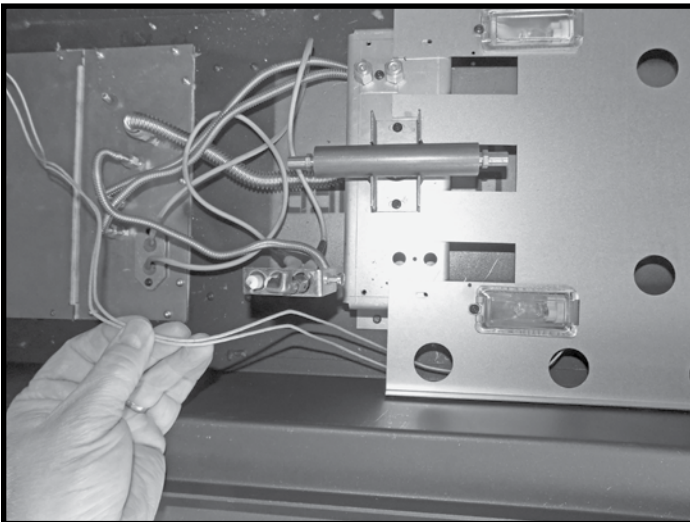

Figure 88: Right hand plate in place with its wires brought out from under it.
- With the control compartment to your left, place the right-hand secondary floor plate in place and route the two wires from the lights to the left side of the firebox (Figure 88). Feed the two wires down through the left most grommet in the gas control compartment cover (Figure 89).